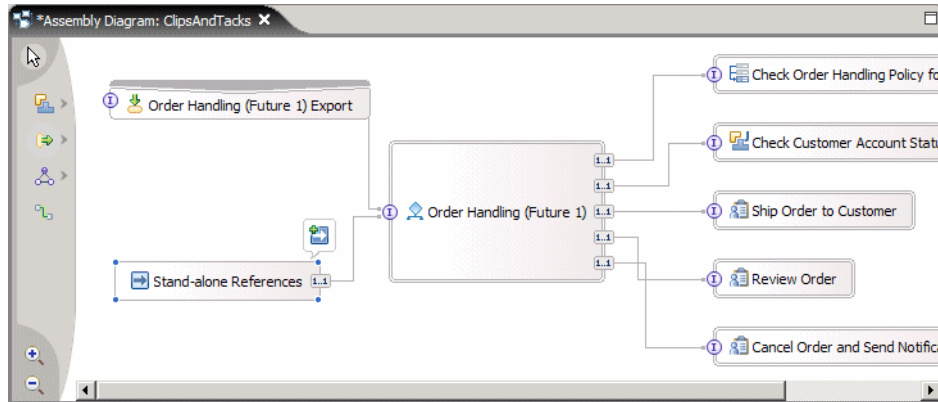

Figure 9-35 Process diagram with stand-alone reference
- ▶ Rearrange the diagram (Figure 9-35).